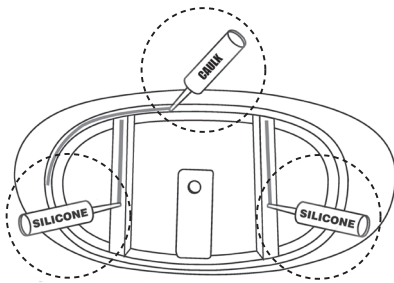

Figure 6
13. Apply a generous bead of adhesive or silicone to the bottom of the tub supports (Figure 6).
14. Then apply a bead of tub and tile caulk around the edge of the base (Figure 6).